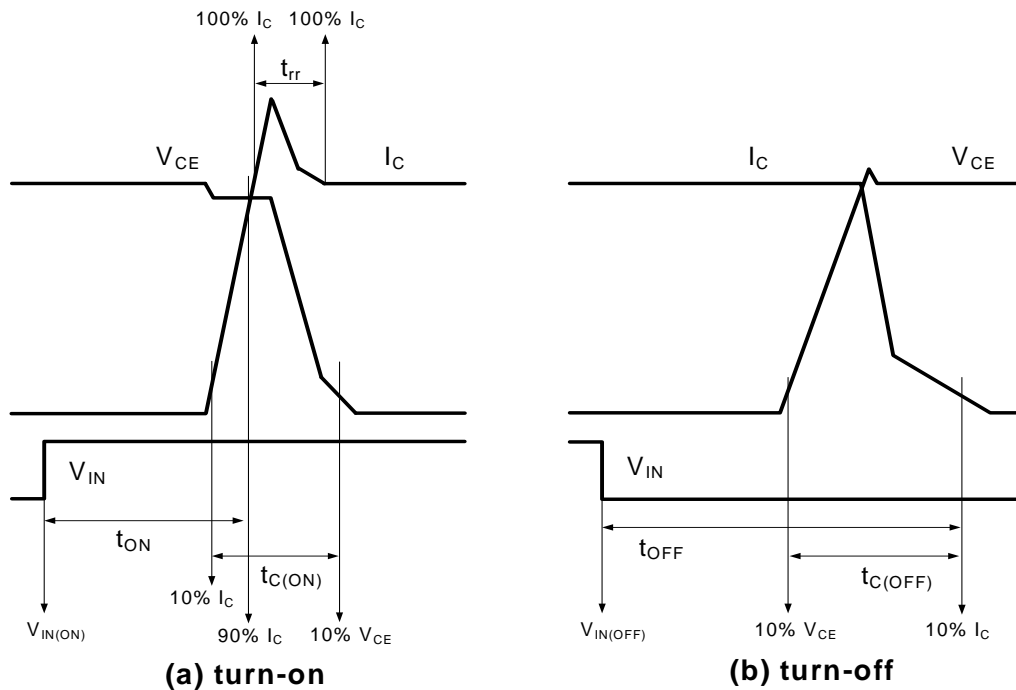

Figure 4. Switching Time Definition
7. t_{ON} and t_{OFF} include the propagation delay of the internal drive IC. $t_{C(ON)}$ and $t_{C(OFF)}$ are the switching time of IGBT itself under the given gate driving condition internally. For the detailed information, please see Figure 4.